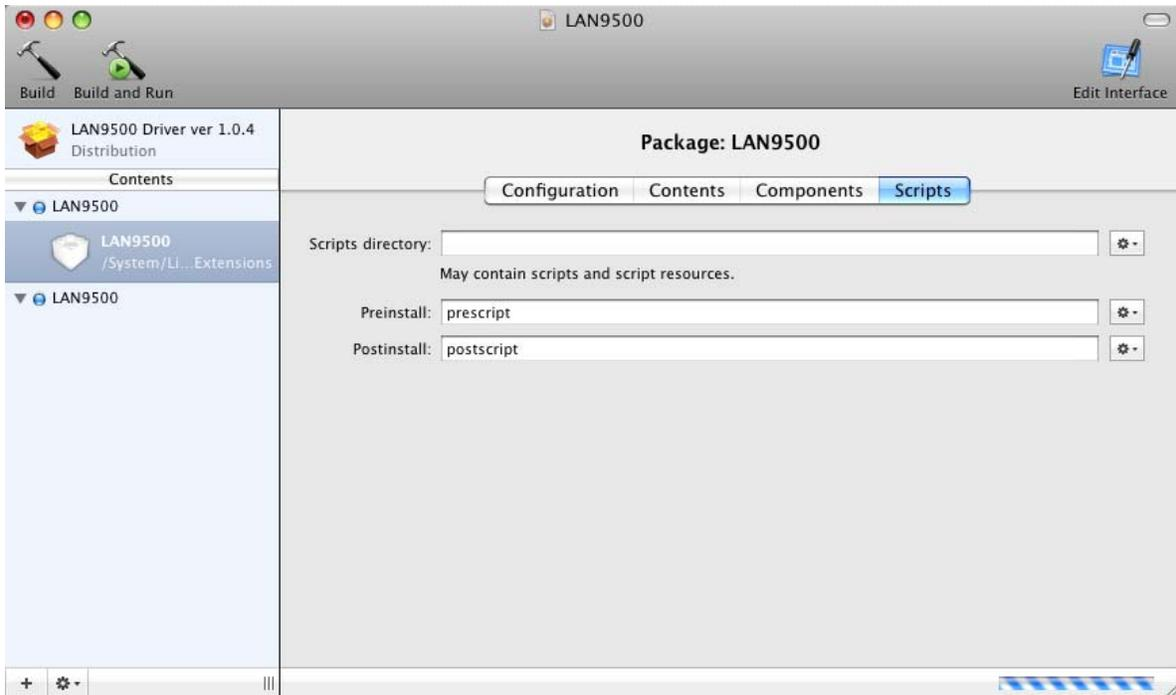

Figure 7.11 Scripts Information
- Under the “Scripts” heading, add the prescript and postscript files created earlier to the Preinstall and Postinstall fields as shown in Figure 7.11.